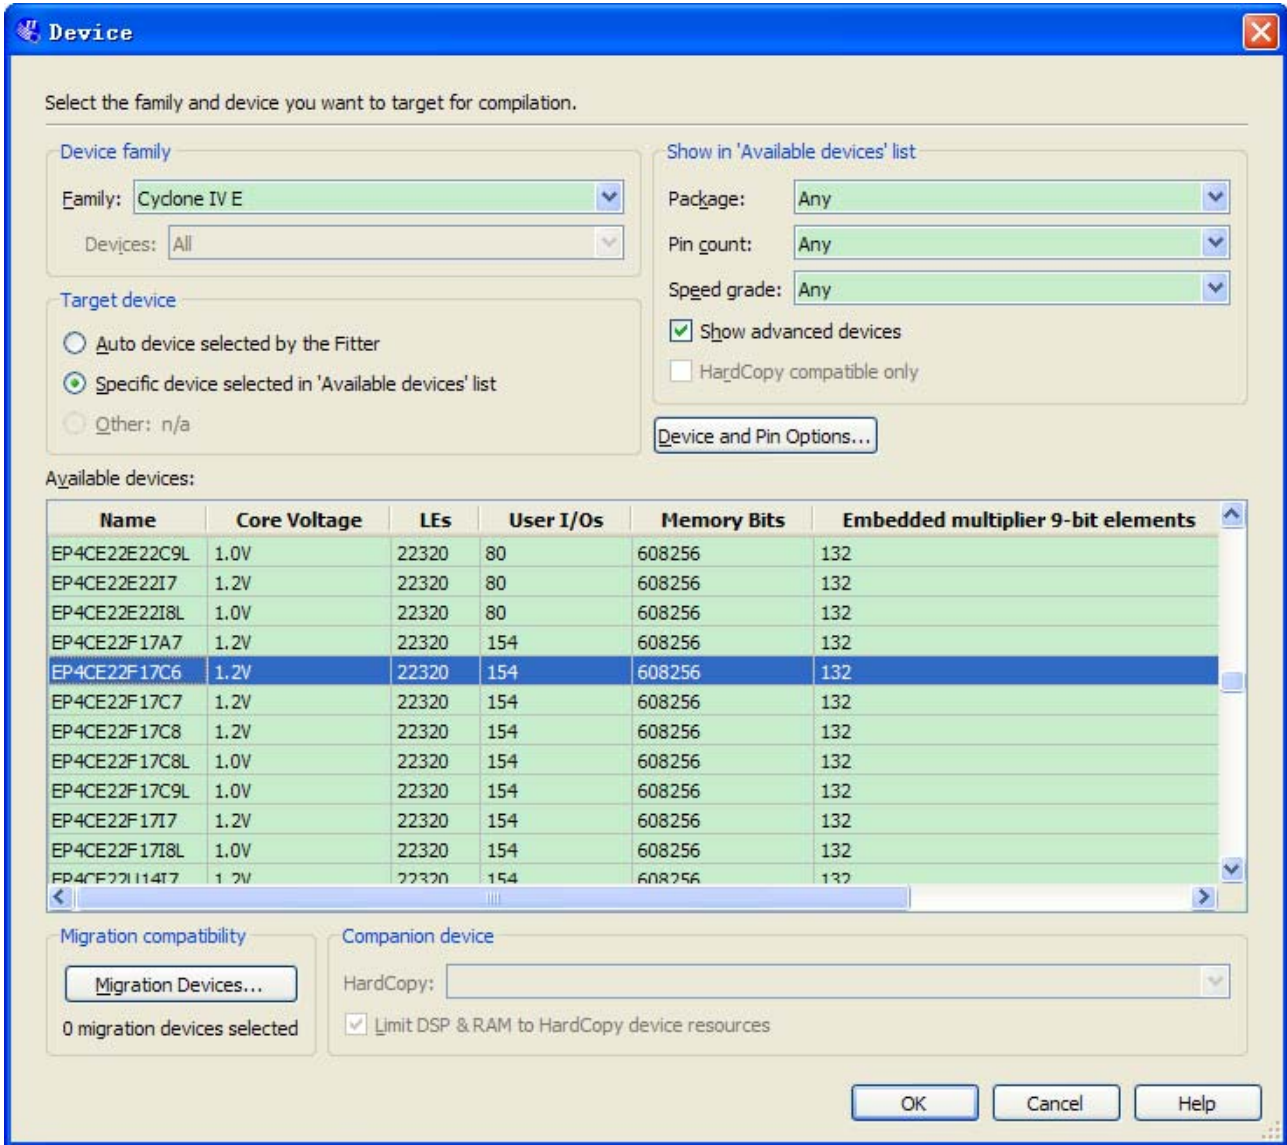

Figure 6-49 Device and Options
3. If other LEDs emit faintness light, select **Assignments > Device**. Click **Device and Options**. See Figure 6-49.